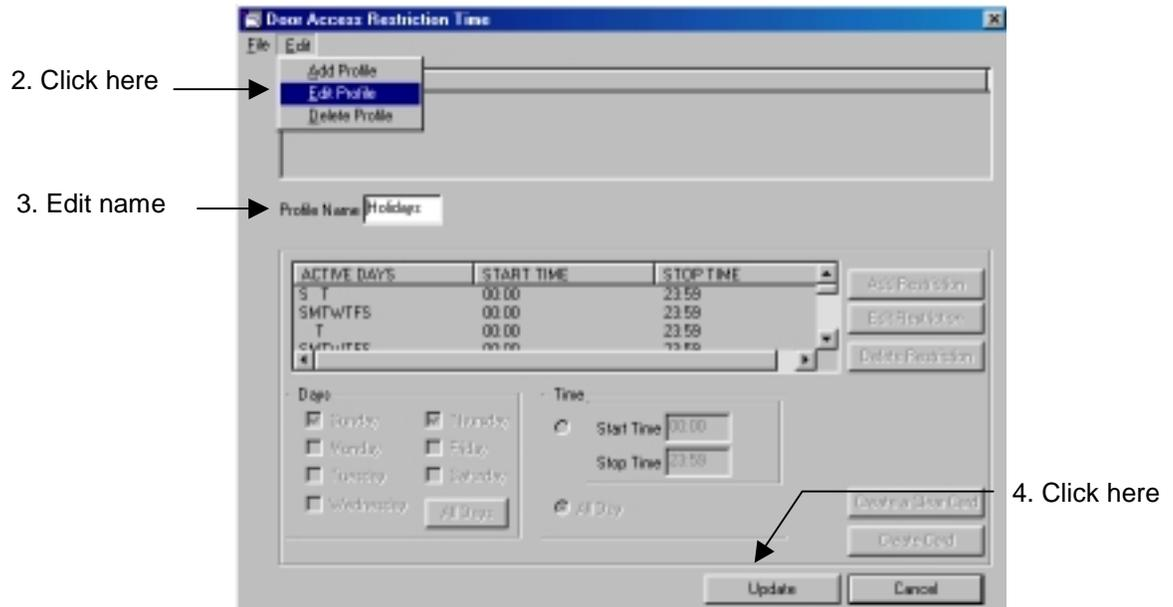

Figure 11.49 Editing a Door Access Restriction Time Profile
2. Select Edit Profile from the Edit drop-down menu (Figure 11.49).
3. Edit the Profile Name field (Figure 11.49).
4. Click the Update button to save changes to the profile (Figure 11.49).